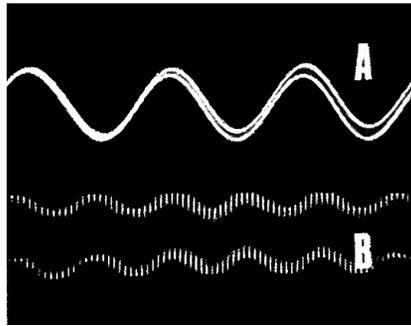

Fig.6. (A) Sine-wave deflected by (B) 50 Hz hum modulation.
and so on. It is also important to make full use of the various timebase speeds when analysing displayed wave-forms. A simple case is shown in Fig. 6 where (A) is a 1000Hz sine-wave but appears to be duplicated.